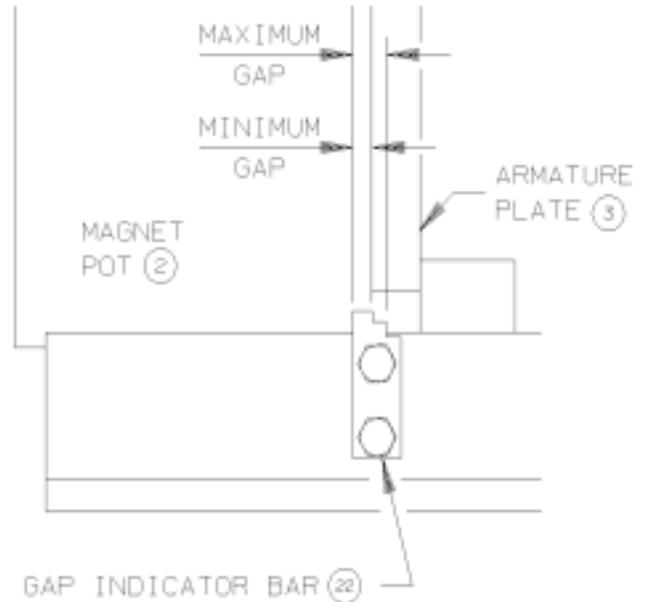

FIGURE 2. ARMATURE GAP
- A. Armature gap measurement is made at the gap indicator bar (22). The gap is between the armature plate (3) and the magnet pot assembly (2). The minimum gap is approximately 3/16 inches as shown by the gap indicator bar (22) when aligned with the gap. The maximum gap is approximately 7/16 inches as shown by the notch on the indicator bar. See FIGURE 2. A gap, which is too small, does not provide sufficient clearance between the brake shoes and the brake wheel. On the other hand a gap, which exceeds the recommended maximum gap, may prevent the releasing of the brake shoes from the wheel.